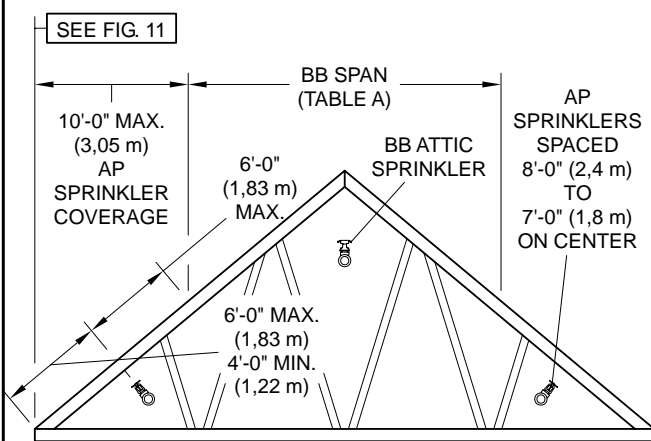
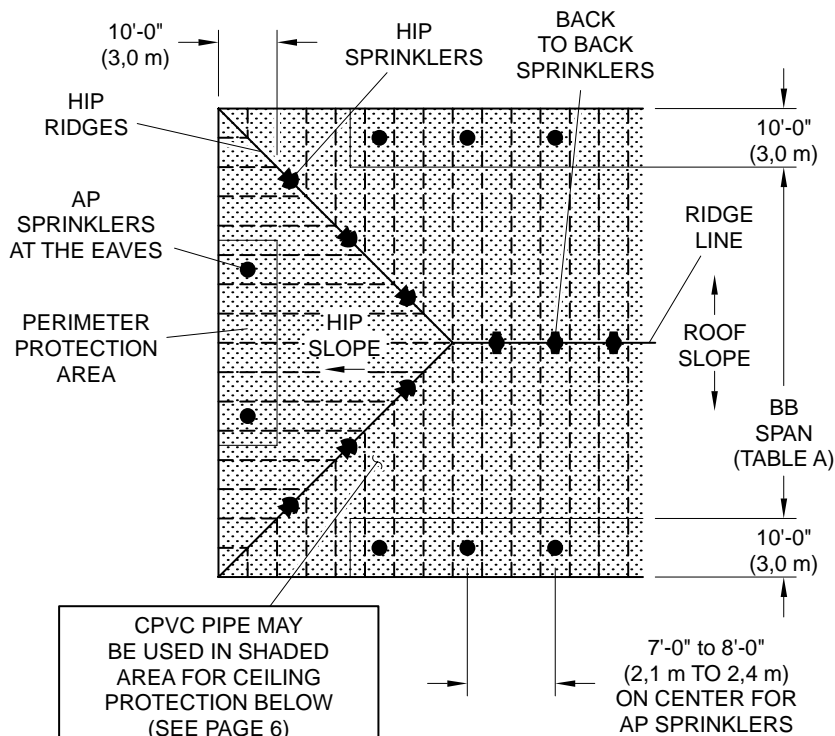

FIGURE 14A — BB w/ AP SPRINKLERS
FIGURE 15 — HIP w/ AP SPRINKLERS
A. For single ridge construction (Ref. Figure 14A), AP Sprinklers can be used to protect up to 10 feet (3,1 m) of width at the eaves beyond the maximum allowable 60 foot (18,3 m), 40 foot (12,2 m), or 20 foot (6,1 m) spans of the BB Sprinklers (Ref. Table A).
C. Where HIP Sprinklers are used for hip roof construction (Ref. Figure 15), use BB Sprinklers in the center portion and HIP Sprinklers down the entire hip. AP Sprinklers can then used to protect the eaves beyond the BB Sprinklers as described in Paragraph A. Also, AP Sprinklers can be used to protect up to 10 feet (3,1 m) of width beyond the maximum allowable 28 foot (8,5 m) or 20 foot (6,1 m) horizontal coverage of the HIP Sprinklers (Ref. Table A). Spacing of the AP Sprinklers is to be as detailed for their use with the BB Sprinklers in Figure 14A.